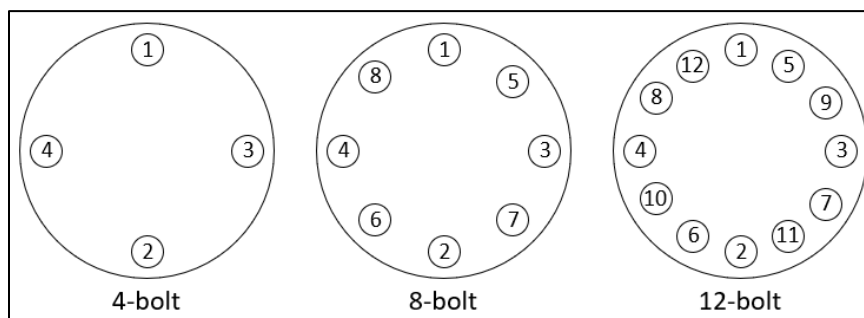

Figure 5 - Flange Bolt Torquing Sequence
4. Place the remaining studs between the pipe flanges. Tighten the nuts in the sequence shown in Figure 5. Check for leaks after tightening the flange bolts.
3. Install bolts in both process connections. Tighten the nuts in the sequence shown in Figure 5. Check for leaks after tightening the flange bolts.